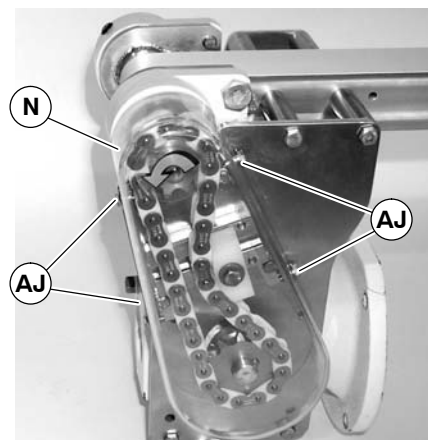

Figure 16
NOTE: Do not over-tighten screws (AJ of Figure 16).
- Install cover (N of Figure 16) and tighten four screws (AJ) to 35 in-lb (4 Nm).